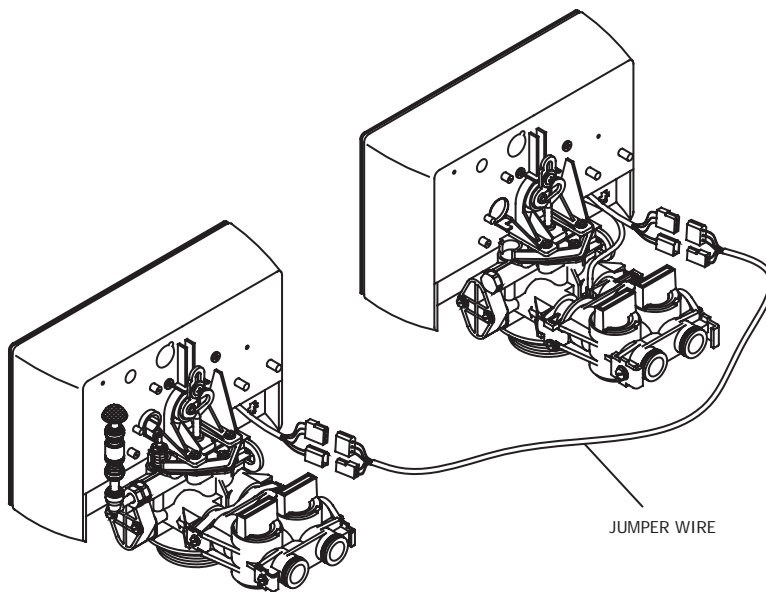

Figure 12\*
- Use the jumper wire to connect the two systems together (see Figure 12). One way connection only.